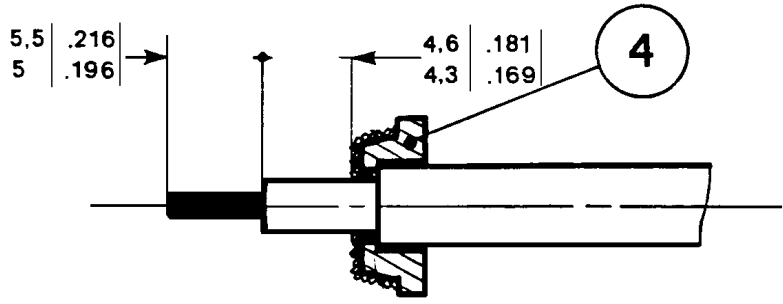

Figure 8
- 3) Slide braid cone (4) until it stops against jacket, see Figure 8.